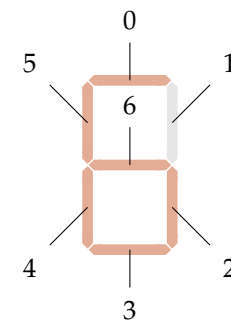

Figure 8: The mapping between the control bits and the segments on the display. The MSb control bit, 7, is unused.
The DE1-SoC board has a 6-panel seven-segment display. Each individual panel is controlled by a single byte, as shown in Figure 8
- The letter “A” can be written on a display panel by turning on every segment except the bottom one (bit 3, as shown in Figure 8). As there are only seven segments but eight bits in a byte, the MSb is unused and irrelevant, so “A” can be represented by  $0b0x0111\ 0111 = 0x77$ .